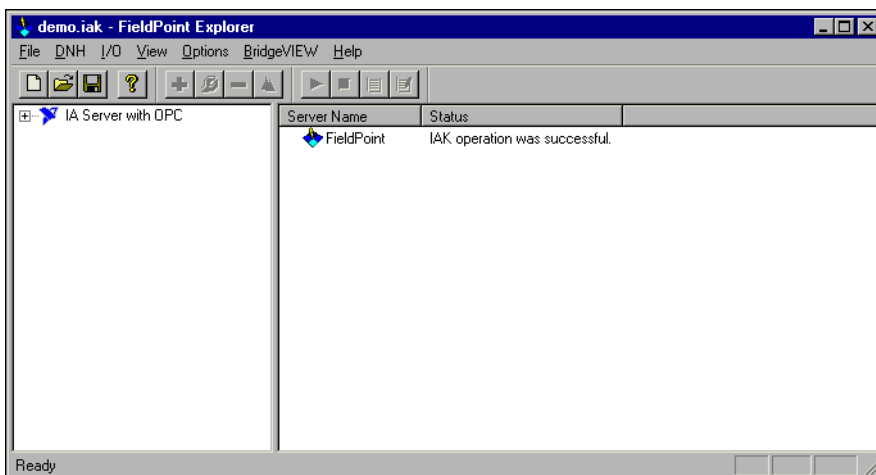

Figure 7. FieldPoint Explorer
1. From the Windows menu, select **Start»Programs»National Instruments FieldPoint»FieldPoint Explorer** to launch the FieldPoint Explorer program, shown in Figure 7.